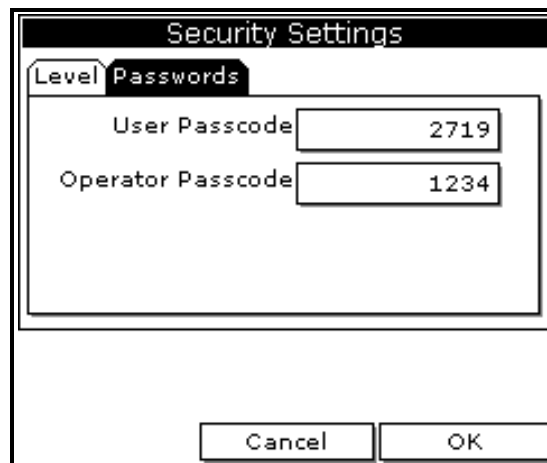

Figure 66: Passcode Entry Window
4. Use the arrow keys to move to the Passwords tab and press **[ENTER]**. The screen appears similar to Figure 66.